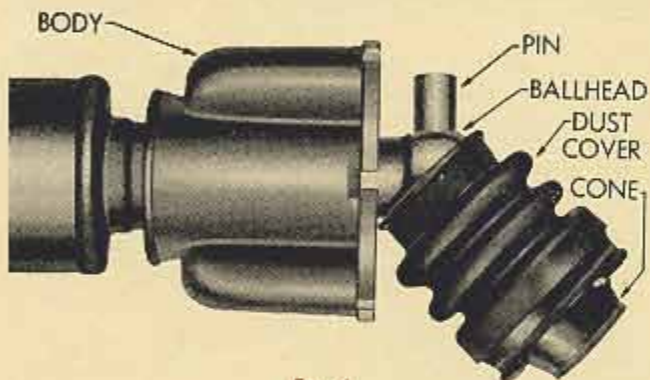
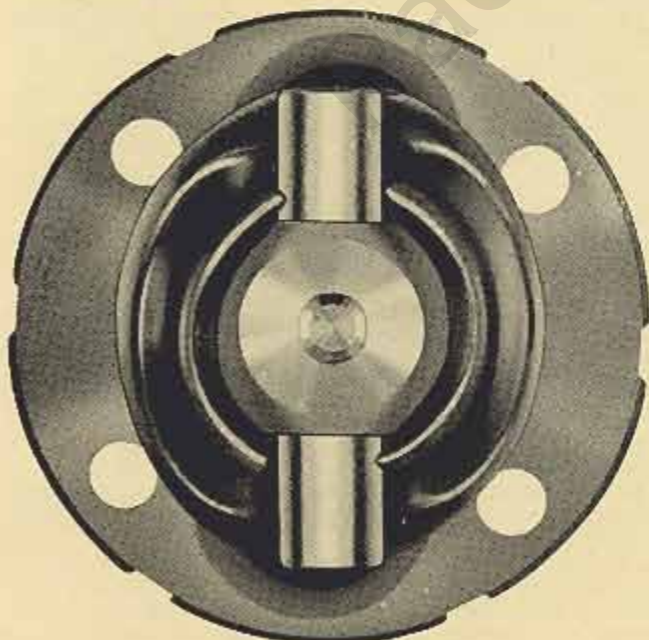

Fig. 1
Fig. 2
(4) Stretch and thread the grease-soaked cover over the pin and ballhead, Figure 1, and work the dust cover into the body as far as possible by hand, Figure 2. (Use no tools for this.) With the body in position so the pin can enter the ball channels, pull the body sharply over the pin, thereby forcing the dust cover into the body.